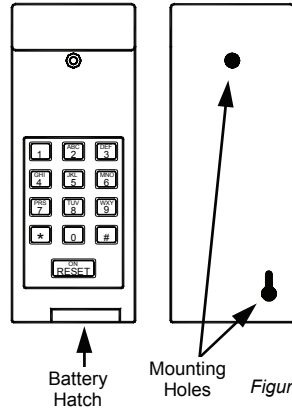

Figure 1
Step 2: The screws provided are adequate for mounting directly to wood or similar material. When mounting on masonry or similar material plastic anchors are recommended. Drill a hole for the bottom screw. Install the screw leaving the head of the screw approximately 1/8 inch out from the wall. Slide the keypad over the screw and mark the position of the top hole. Remove the keypad and drill the top hole. Slip the keypad back over the exposed screw and finish mounting by installing the top screw. Refer to Figure 1.